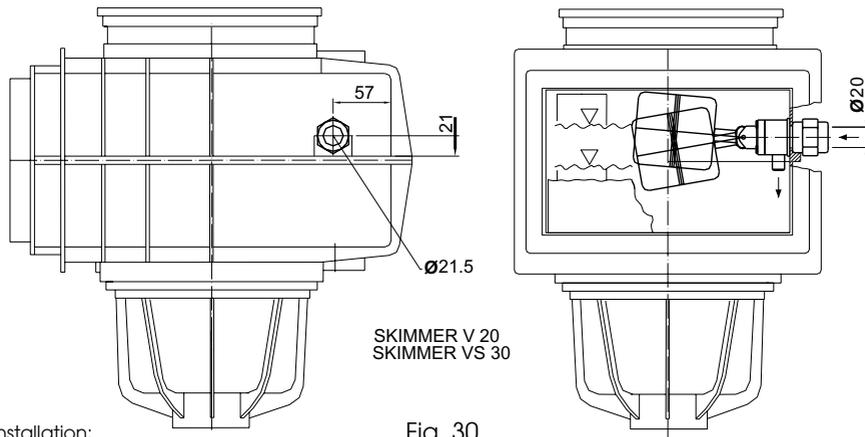

Fig. 30
4.3 Installing the Mini-Level Valve (Item 2021) (Fig. 30)